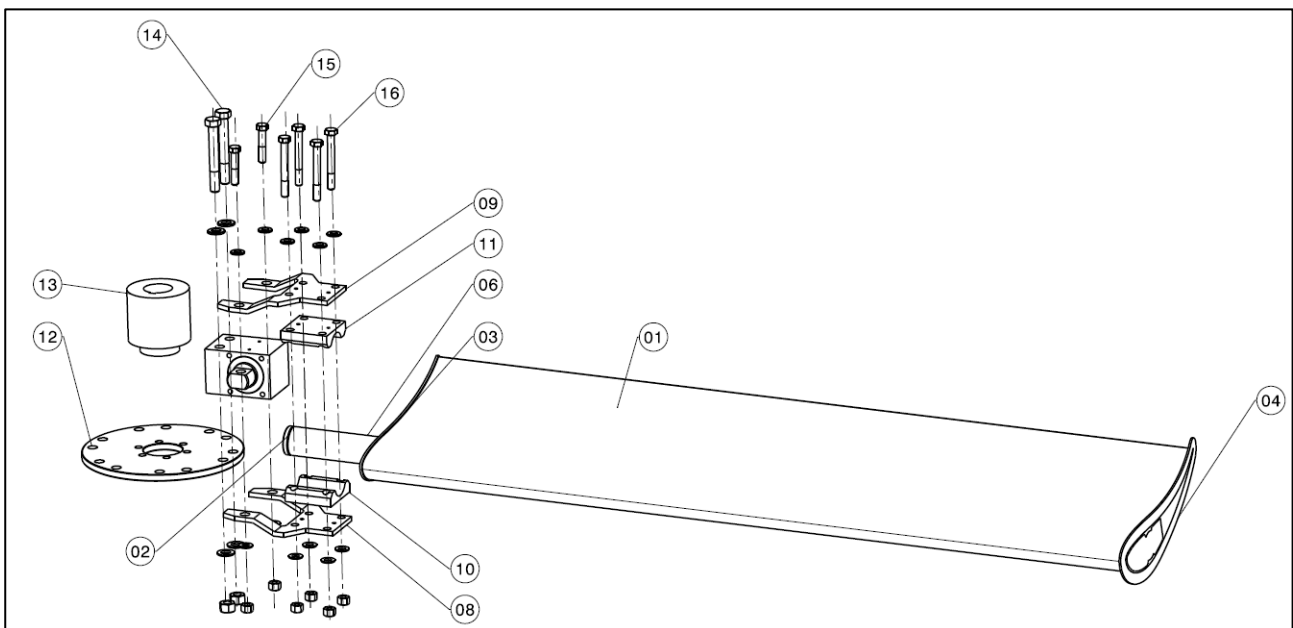
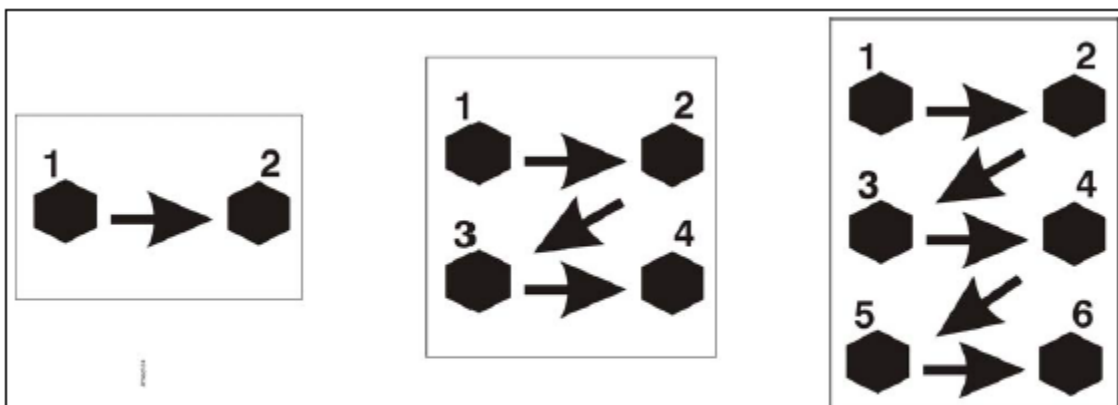

Figure 2-3: Details of the elastomeric joint of the elastofan impeller.
Figure 2-6: Blade securing bolts tightening sequence.
The elastofan impeller is made of the following parts (refer to Figure 2-3):
2.2.7. ELASTOFAN IMPELLER DESCRIPTION (Figure 2-3)
The elastofan impeller (refer to Figure 2-3) is composed by the coupling bushing, support disc and a series of blades mounted on flexible supports.
2. At reception, gather a lower disc-hub-block for blade seating group (1) and put it on a proper assembly stand.
3. Install an upper disc-upper block for blade seating group (2) on the lower disc-hub-lower block group (1) and secure it using provided screws and nuts (3). Do not tighten bolts now.
4. Carefully clean blade shaft (4).
5. Insert blades (5) in their seats on the hub between the two blade holder blocks.
6. In case, install up to 3 shimming rings (6) on blade shaft (4), until proper adjustment is achieved.
7. Insert safety ring (7) in its seat on blade shaft (4).
8. Tighten nuts alternatively, using the same torque increment, as per sequence shown in Figure 2-6 until applied pressure is enough to keep blade in position, though allowing it to turn around its longitudinal axis.
1. Refer to Figure 2-3.
3. Loosen the two screws (15) that link the elastomeric joint and the blade with the two bend plates with the pillow blocks. Loosen, if necessary, the four screws (16) that link the bend plates and the pillow blocks.
4. Carefully clean blade shaft (6).
7. Insert safety ring (2) in its seat on blade shaft.
8. Tighten nuts (16) alternatively, using the same torque increment, as per sequence shown in Figure 2-6 until applied pressure is enough to keep blade in position, though allowing it to turn around its longitudinal axis.
2. Put on blade external tip (1) a bubble protractor (2) and tilt it to required operational conditions.
3. By hand or using a gummy mallet (3), turn blade to put it at desired angle (tolerance $\pm 0,5^\circ$).
4. Alternatively tighten bolts (4), using the same torque increment, acting as per sequence shown in Figure 2-6. Comply with values reported in Table 2-1, Table 2-2 or Table 2-3, according to bolt type.